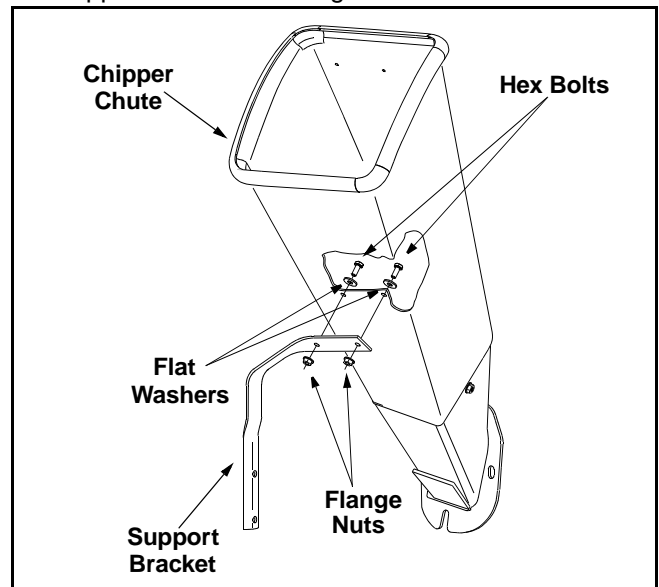

Figure 3
- Loosen, but do not remove, the two hex bolts, flat washers, and flange nuts which are secured to the support bracket. See Figure 3.